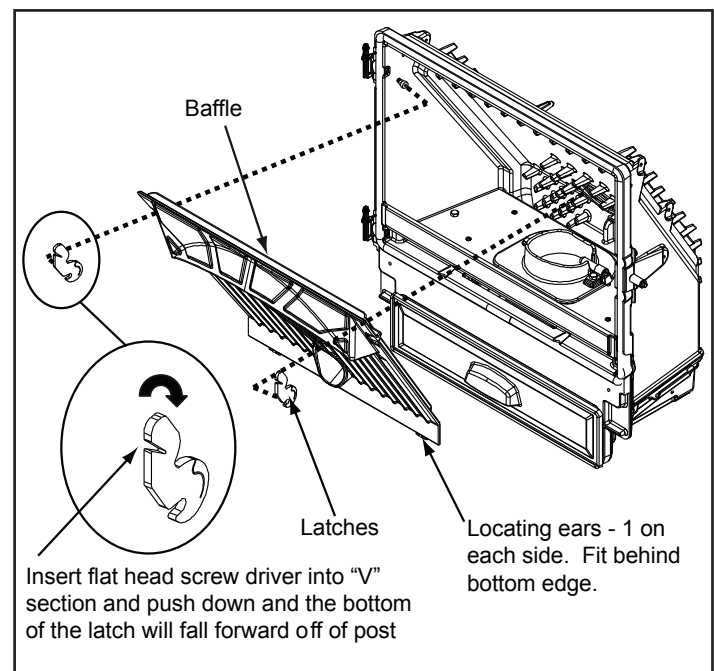

Figure 40.2
- Remove baffle by placing a flat head screw driver into the slot of the latches located in the upper corners and push down. The bottom of the latch will fall forward off of the post. Lift the baffle up and then out toward you. **Figure 40.2.**